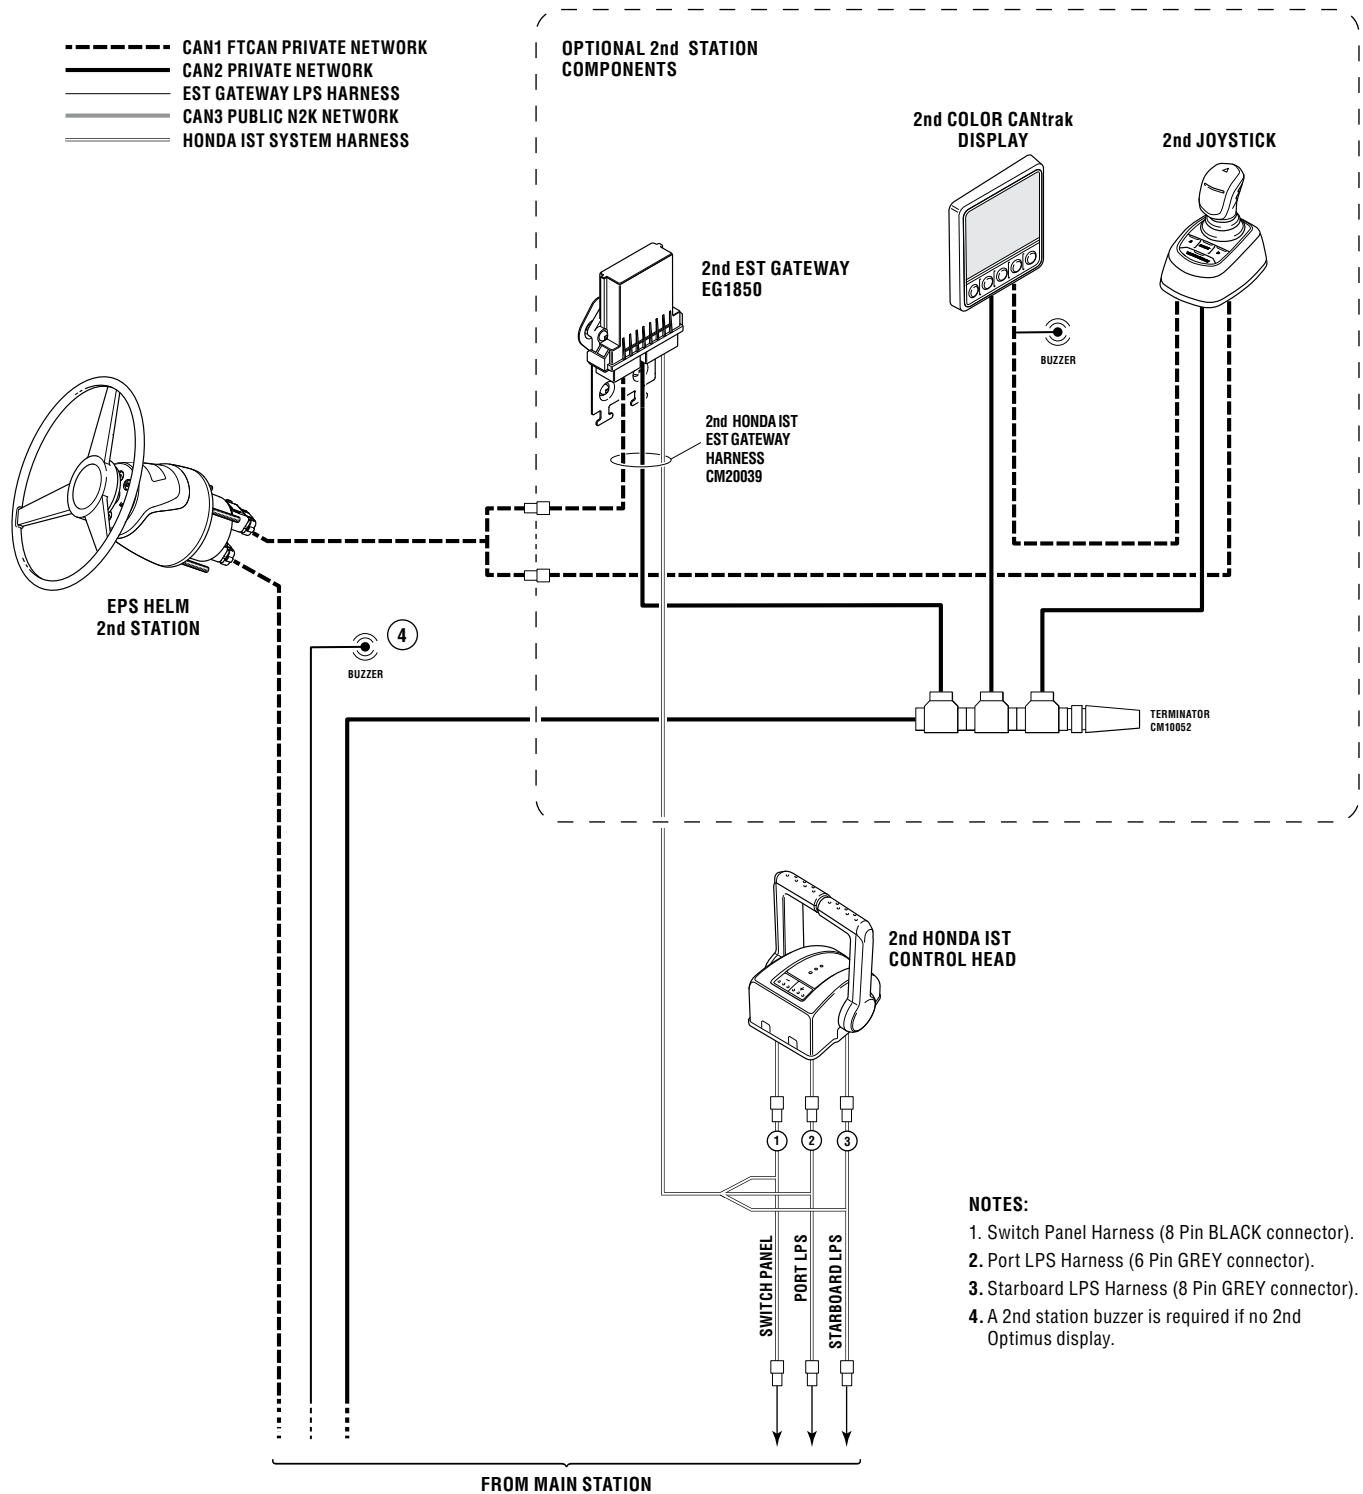

Figure 9-2. Honda IST – Optional second station.
- 3.** Complete the CAN1, CAN2 and CAN3 network connections (refer to figure 9-1 and figure 9-2).
These connections are illustrated in the figure 9-1 and figure 9-2.